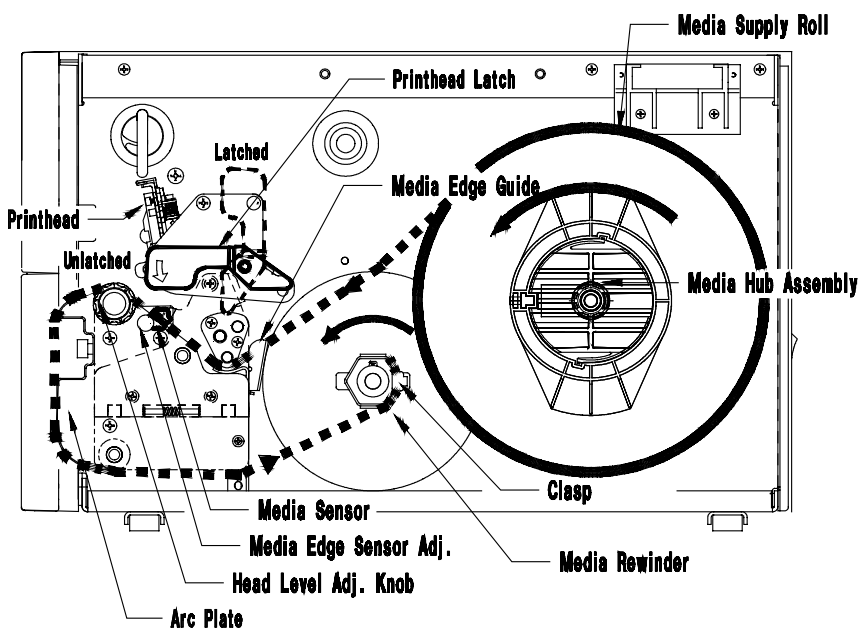

Figure 2-7 Installing Media with Internal Rewind Option
6. Route the media over the Guide Plate, between the Media Sensor, and over the Platen Roller, (located beneath the Printhead), around the Arc Plate and to the Media Rewinder as shown Figure 2-7.